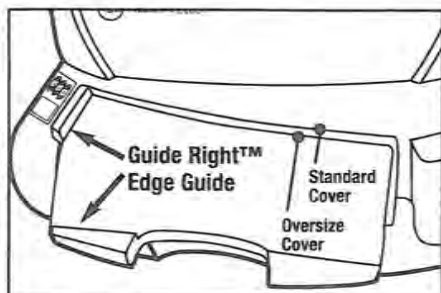

Figure 1
A. PUNCHING PAPER (see Figure 1)